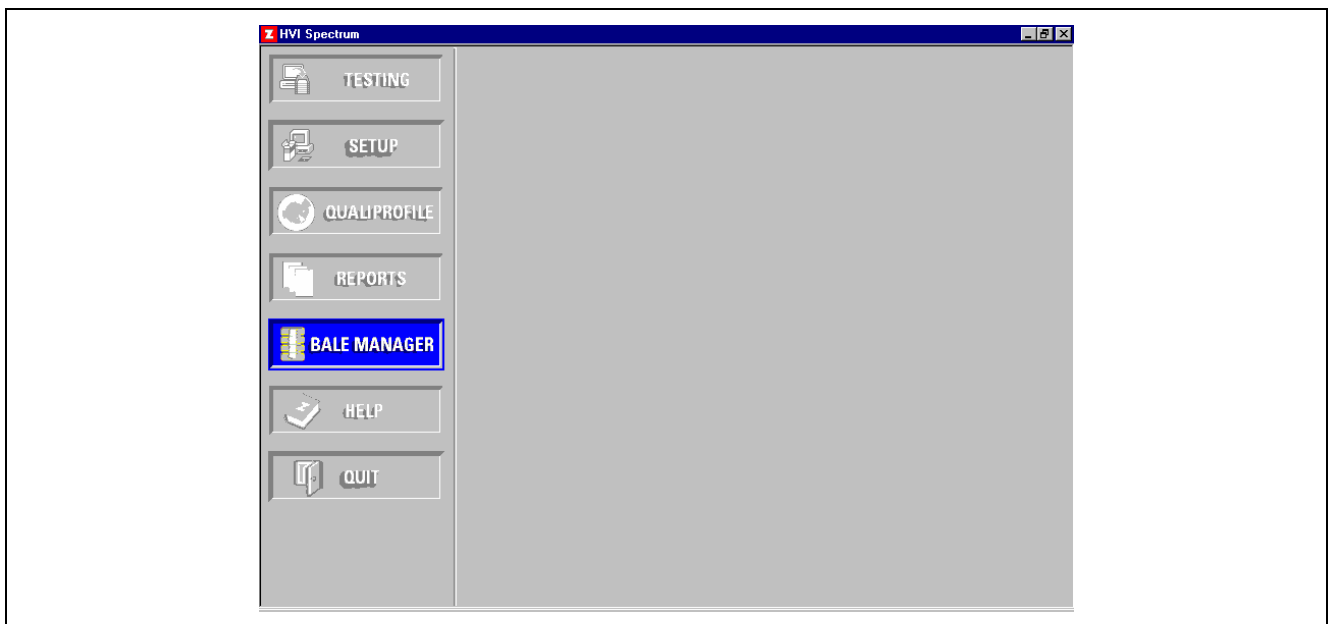

Fig. 6-15 USTER® *HVI* – Main Screen
1. Select Bale Manager on the USTER® *HVI* screen (Fig. 6-15)
- 6.6 Perform the above procedures for all of the listed fiber properties using the following values, then Exit to return to Bale Manager (Fig. 6-15).